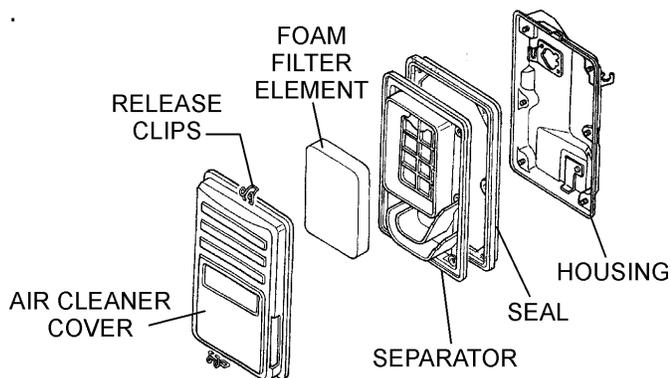

Figure 23. Engine Air Cleaner
1. Remove the air cleaner cover and foam filter element as shown in Figure 23.